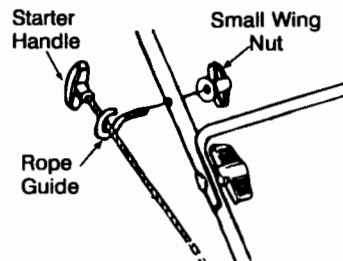

Figure 4
- Secure with small wing nut. See figure 4.